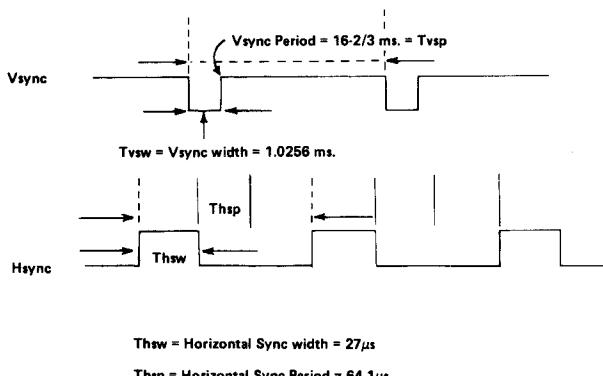

Figure 1. Sync Signals
- Look at pins 6 and 9 on the CRT Monitor P.C. Board and compare the signals to Figure 1. If the respective signals are the same, go to 9. If not: